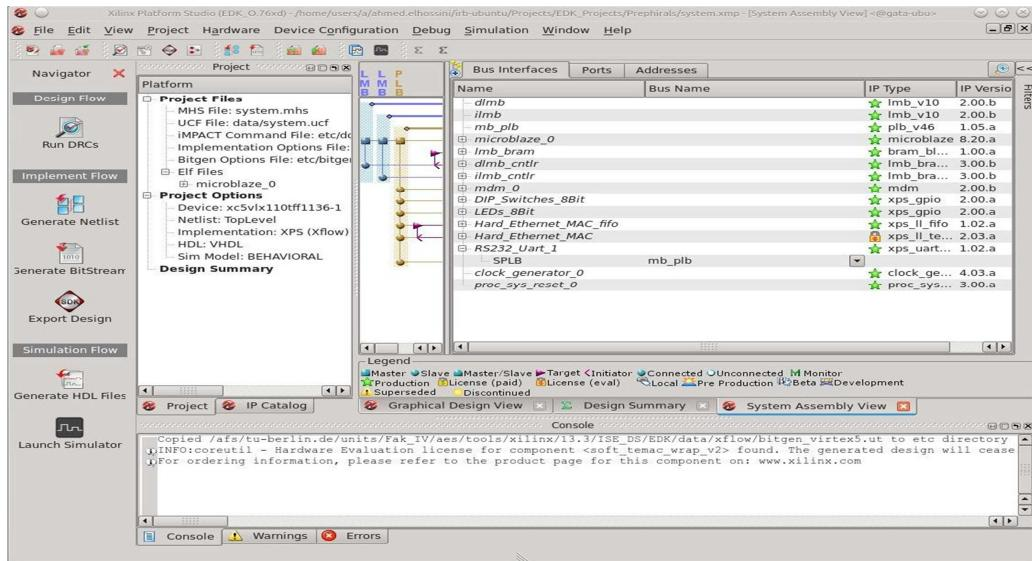

Figure 1: Platform Studio Window
**Step 1:** Starting from the end of tutorial 2: you should end up with the Platform studio window shown in **Figure 1**. In this window select the menu item “**Hardware-> Create or Import Peripheral...**”. This will display the “Create or Import Peripheral Wizard” window shown in **Figure 2**. This wizard will guide you through the required steps to create a new peripheral. Click “**Next**” to continue.